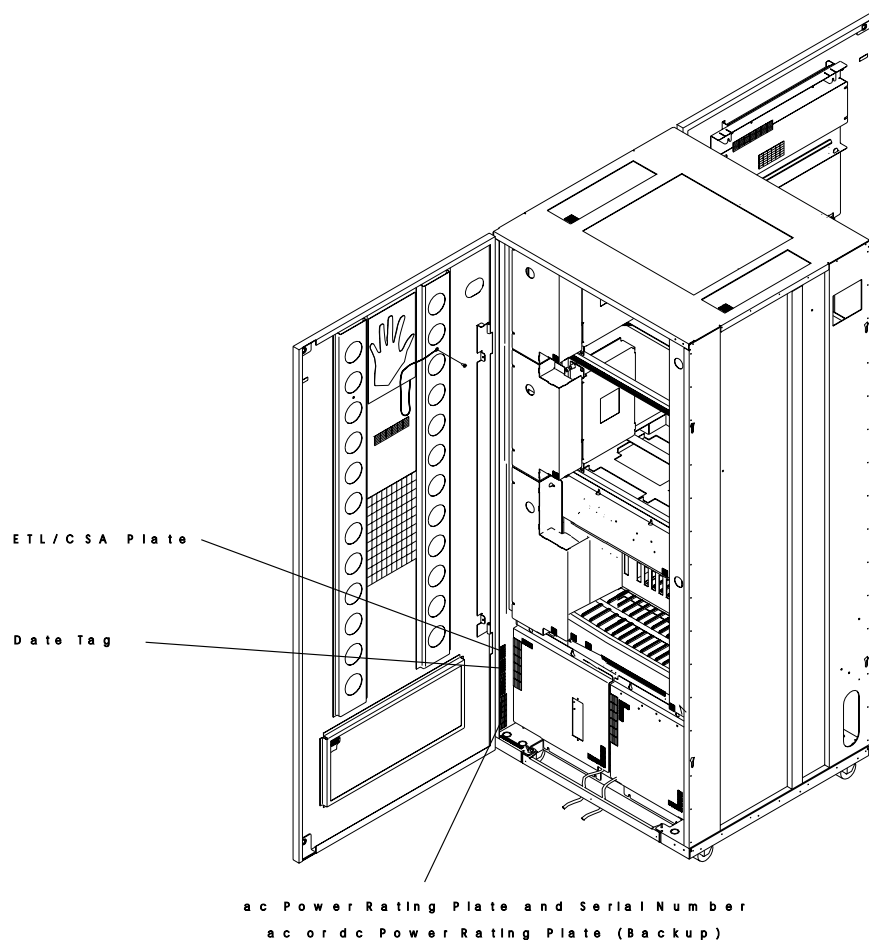

Figure 2-1. 3746-950 Power Rating Plate (Rear View)
- Step 3. \_\_\_\_ Open the rear door. Locate the power rating plate (see Figure 2-1). **Check that the 3746-950 Basic ac power and the Optional ac power rating plate data are consistent with the customer's available voltage ac and the frequency.**
- Step 5. \_\_\_\_ Check that the serial number stamped on the frame is the same as on the serial number plate (see Figure 2-1 for location).
2. \_\_\_\_ Remove the CBC covers (see Figure 2-1 on page 2-2).